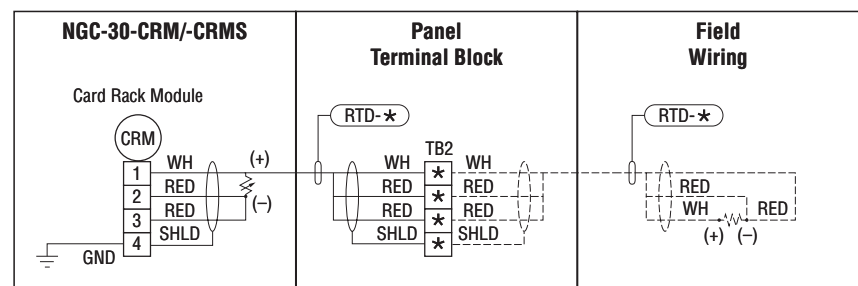

Fig. 2.4 Typical RTD installation connected up to CRM(S) module
See Fig. 2.4 for a typical RTD installation to NGC-30 CRM(S) module.